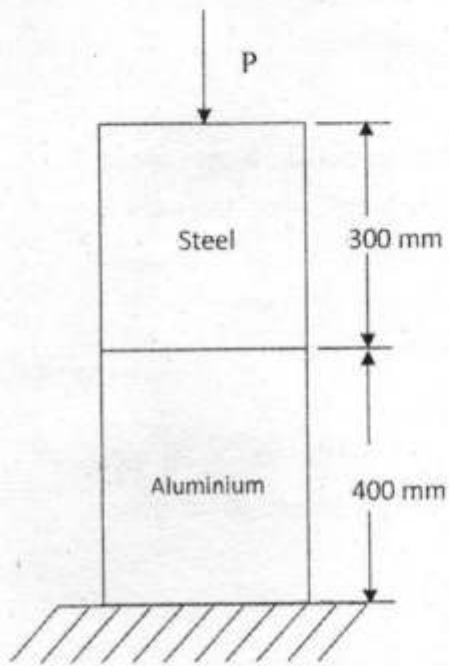

Figure-1
3. A member formed by connecting a steel bar to an aluminium bar of cross sectional area 2500 mm² is shown in the figure -1. Calculate the magnitude of the load P which will cause the total length of the member to decrease 0.25 mm. Take E for steel = 2.1×10^5 N/mm² and E for aluminium = 7×10^4 N/mm².